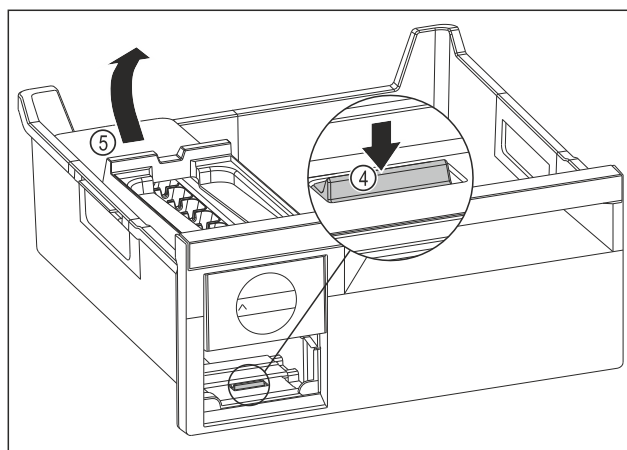

Fig. 91
- Removing the EasyTwist-Ice body: Use your finger to press the tab Fig. 91 (4) downward while at the same time lifting the EasyTwist-Ice body Fig. 91 (5) from behind with the other hand.